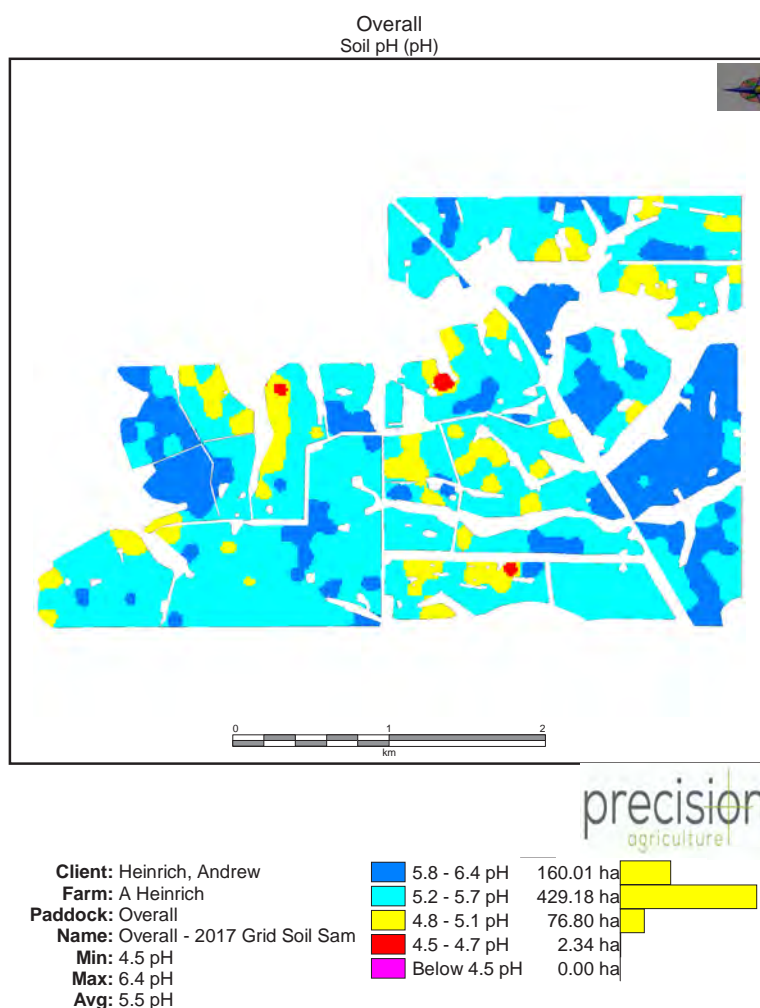
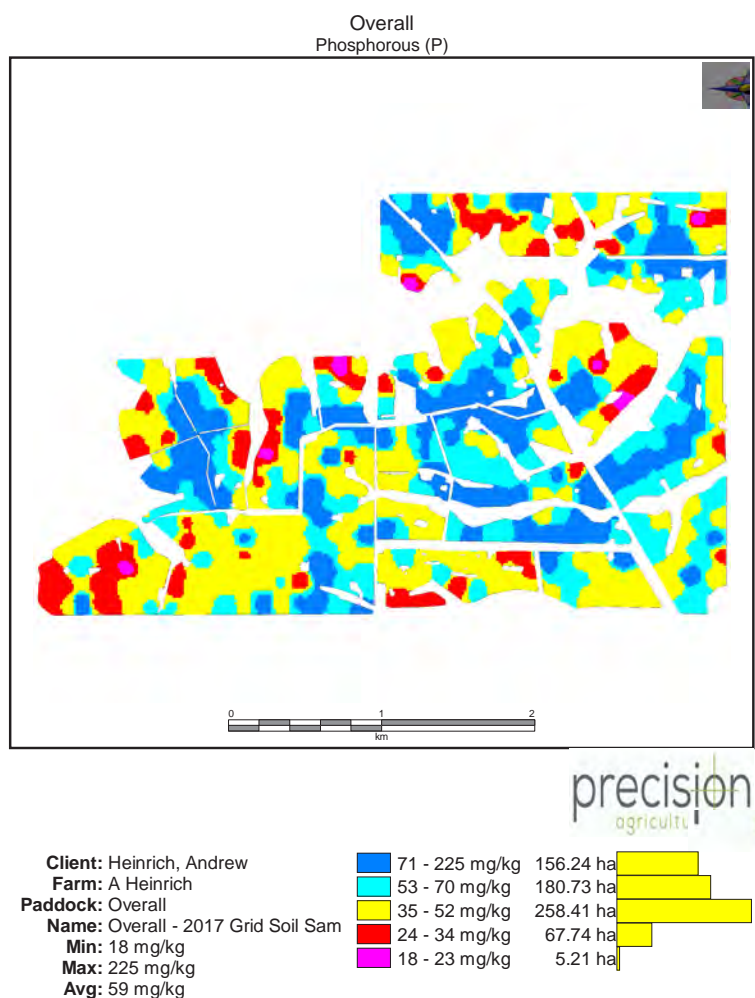

FIGURE 1: Soil pH map.
FIGURE 2: Soil phosphorus map.
The mapping work to date, indicates that the greatest financial benefit occurs on the second or third rotation of lime. Specifically, if you have never limed, it's highly likely that all the paddock will be a low pH and a blanket application will be required. However, on land that has previously been limed (refer to FIGURE 1) significant savings are possible.
The Heinrich's had their entire property mapped in 2017. Refer to FIGURES 1 and 2. Most paddocks have been limed at least twice and the mapping clearly indicates which areas need further liming and which don't. Much of the farm will only require a maintenance rate of 1t/ha to be applied, resulting in a significant cost saving. The mapping cost \$18.00/ha and the lime saving alone equates to almost \$60/ha. The phosphorus (P) mapping (FIGURE 2) also showed that almost half the property had P levels greater than 50ppm. This cut the Heinrich fertiliser order from 120t to 80t.